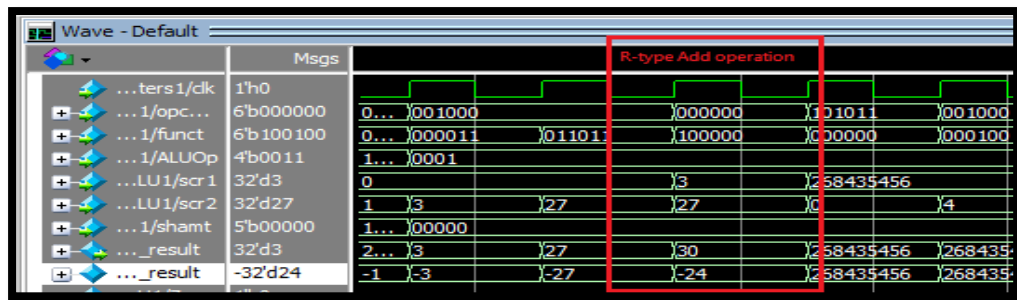

Fig.4 Instruction waveform snapshot
- Please annotate the waveform (as shown in Fig. 4)